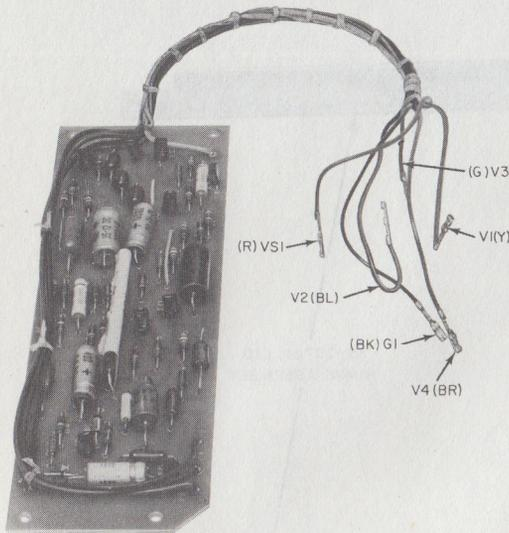

Fig. 4—KS-20721, List 12 Voice Control
- Control, Voice, KS-20721, L12 (Fig. 4) (if required for field installation)
**2.04** The List 12 voice control (Fig. 4) consists of a speech detector and a 13-second timer that is kept reset by pulses from the speech detector when voice signals are present on the telephone line. In the absence of speech signals, the timer will time out in approximately 13 seconds disconnecting the coupler from the line. However, the CO receiver off-hook tone generator will prevent operation of the List 12 voice control. An automatic volume limited (AVL) amplifier is part of the speech detector and provides a relatively constant -5 dBm speech level at 600 ohms to leads AVL and ground. The customer may use this AVL amplifier to drive a tape recorder, paging system, or other equipment. The List 12 voice control is required only with VCA RDY. The List 12 voice control is added to the List 1 coupler by providing option Y as shown in Table B.